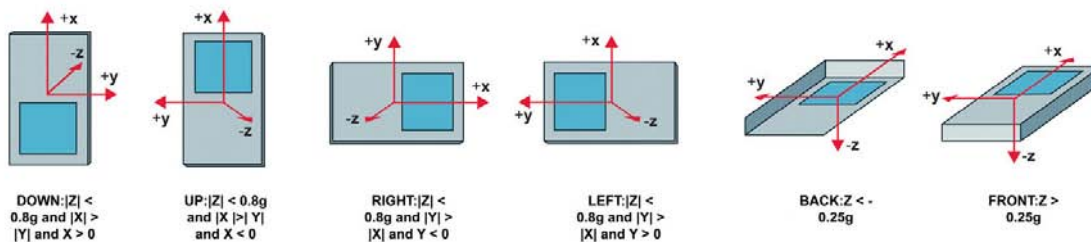

Figure 11. Orientation of 6 Positions on the Device.
2. Move the device in the 6 different positions: Back, Front, Left, Down, Right, and Up (Figure 11) and watch as the graphic and wording changes based on the position that the board is being held. The graphic directly shows the position the board is being held.
1. Hold the board so the position is in the Front position (Figure 11). The DIP board is facing front. Observe that the ring mode is Normal.
2. Rotate the board so that it is in the Back position (Figure 11). The board is upside down. Observe the ring mode change to Silent.
Back is defined as $Z < -.25g$. Front is defined as $Z > .25g$. Rotate the Z-axis to transition between back/front to understand the functionality (Figure 11).
The orientation threshold shows that $|Z| < .8g$. Rotate the board to move the X, Y, and Z-axis to transition the Up, Down, Left, Right positions (Figure 11). In the condition where $|Z| > .8g$, the device is in a flat position and it does not output new orientation positions.
Move the device in the 6 different positions: Back, Front, Left, Down, Right, and Up (Figure 11) and watch as the graphic and wording changes based on the position that the board is being held. The graphic directly shows the position the board is being held.